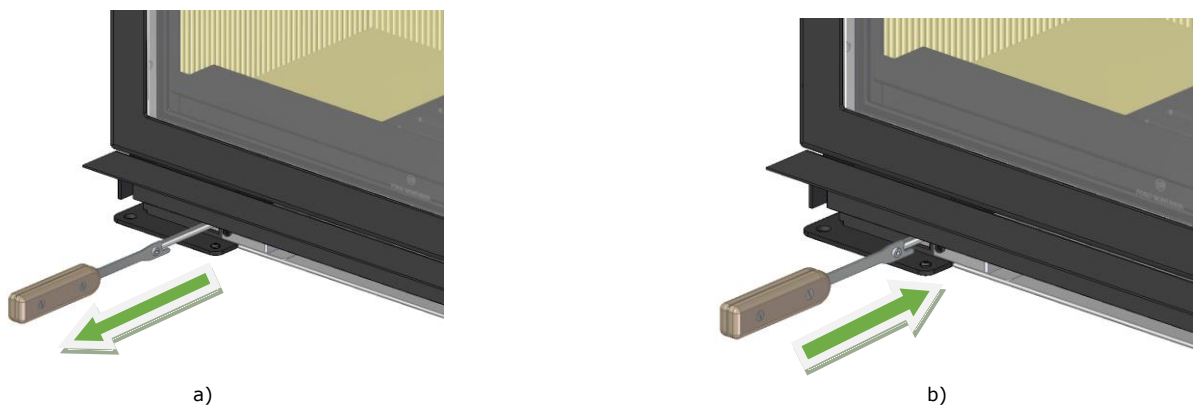

Figure 25 - a) Open Primary Air, b) Close Primary Air
- To open - Pull the regulator with the key that comes in the equipment, for greater yield and greater consumption of firewood, see Figure 25-a.
This also creates a high velocity wash effect of the preheated air over the entire inner surface of the glass panel, helping to keep the glass cleaner for longer, see Figure 25-b.
5. The ignition period ends when the equipment structure has reached a stationary temperature. You should then close the door and adjust the combustion air inlet so that it burns slowly (without primary air), as shown in Figure 25;